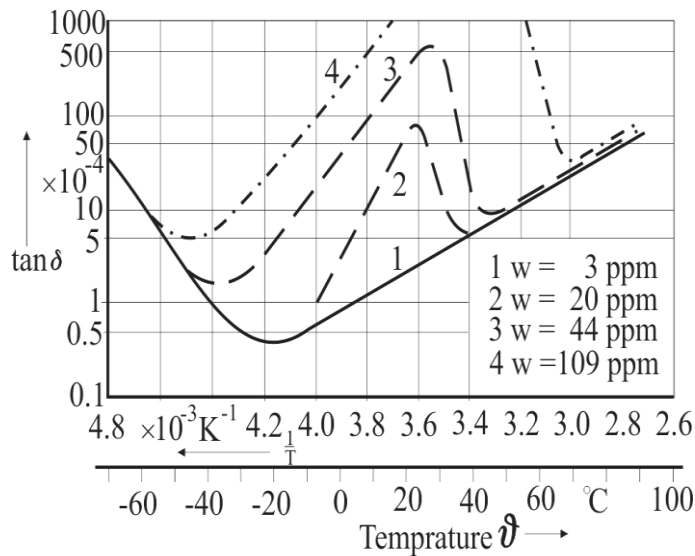

Fig. 6 Loss tangent ' $\tan\delta$ ' of transformer oil having different ppm moisture contents with varying temperature at 50 Hz constant voltage.
- Variation in loss tangent,  $\tan\delta$ , of transformer oil samples having different moisture contents, measured for a wide range of temperature is shown in Fig. 6.